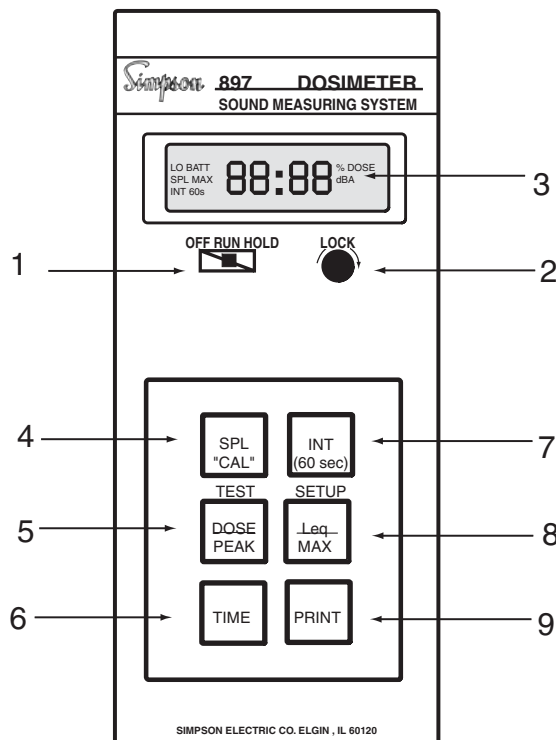
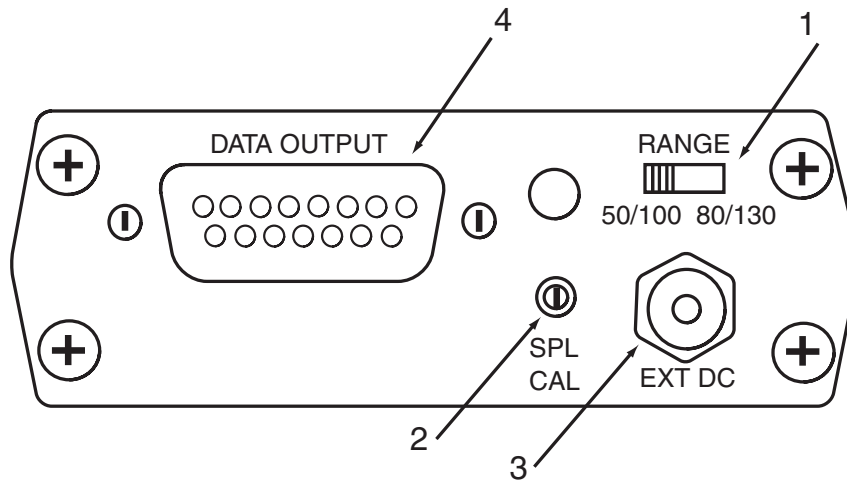

Figure 4-1. Front Panel
Figure 4-2. Top Panel
All front panel operating controls are described in Table 4-1 and shown in Figure 4-1. Top panel adjustments, controls and connectors are described in Table 4-2 and shown in Figure 4-2.
- Press and hold the “Setup” button (see Figure 4-1) while switching the “OFF-RUN-HOLD” switch (see Figure 4-1) from “OFF” to “RUN.”
- Once the desired parameter is displayed, press the “Test” button (see Figure 4-1) to select the available choices of that parameter. The digit or digits which will change as a result of pressing the “Test” button will flash. The display prompt for each function is given within the parenthesis.
- d. Once all the parameter choices are made, switch the “OFF-RUN-HOLD” switch (see figure 4-1) to “OFF” for three seconds and all changes will be saved in the internal memory. It is unnecessary to go through the entire sequence; you may stop and switch the power “OFF” once all needed changes are made. All of the above parameters, with the exception of the Real-Time